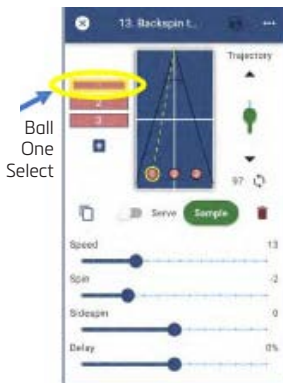

Figure 3-61
2. Select Ball 1 by touching the Ball One selector. (Figure 3-61)